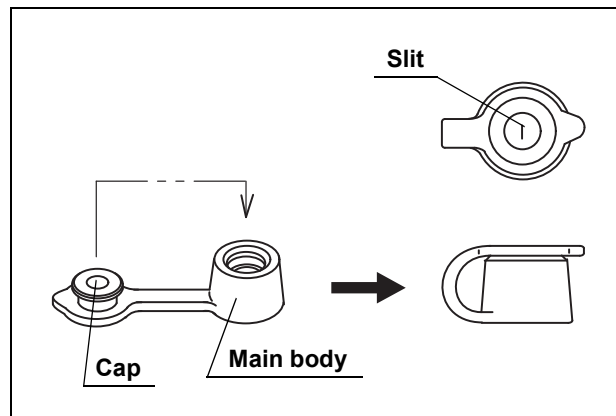

Figure 3.12
2. Attach the cap to the main body (see Figure 3.12).